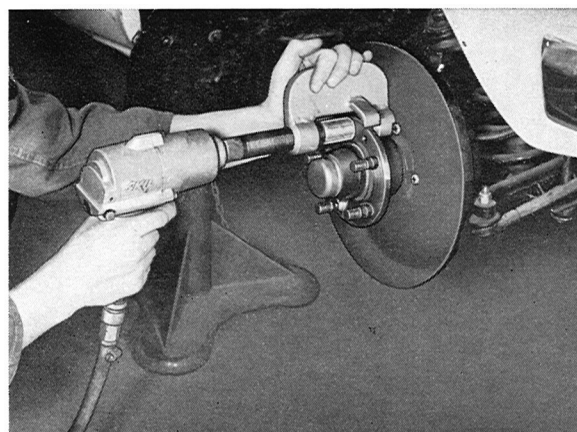

Fig. 7-17. Wheel stud installation
6. Place the tool in position (see Fig. 7-17) and use an impact wrench to screw in the stud completely.